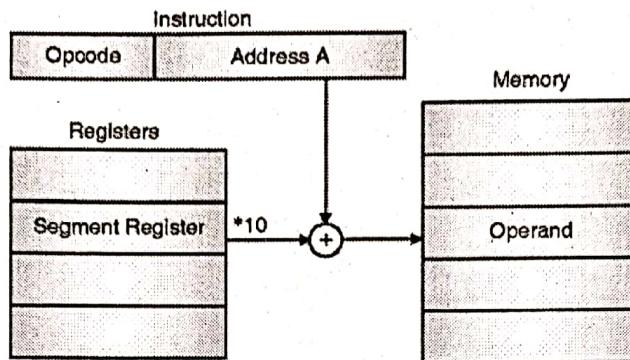

Fig. 5-Q. 6(b) : Direct addressing.
- In this mode, the 16-bit effective address EA is directly given in the instruction. The physical address is generated by adding this 16-bit direct address to segment register *10 H as shown in the Fig. 5-Q. 6(b).